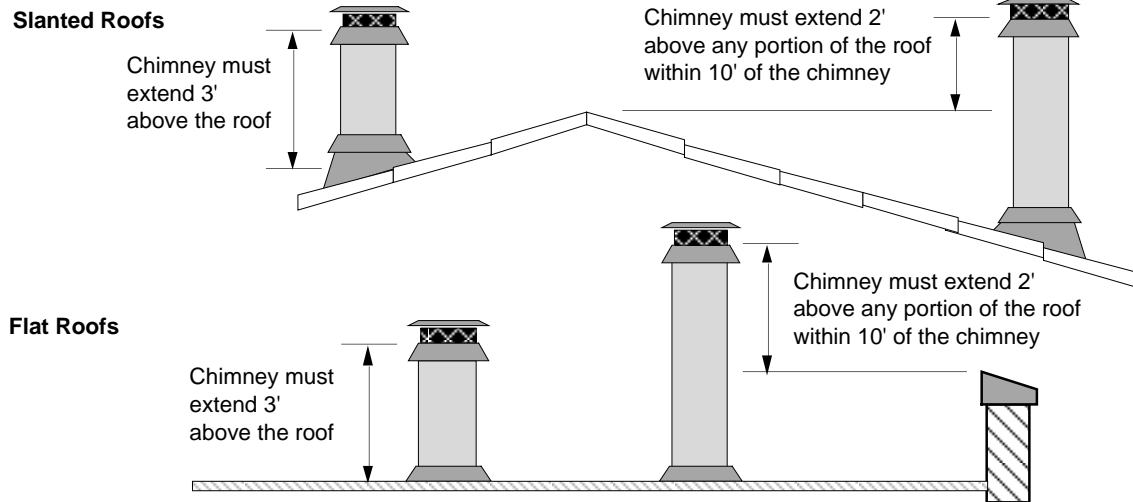

Figure 5
- Must terminate at least 3' (914mm) above the roof **and** at least 2' (610mm) above any portion of the roof within 10' (3.048M) (see Figure 5)